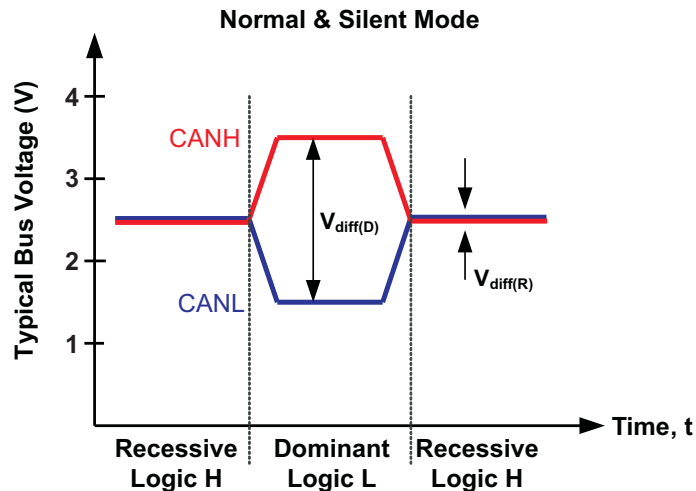
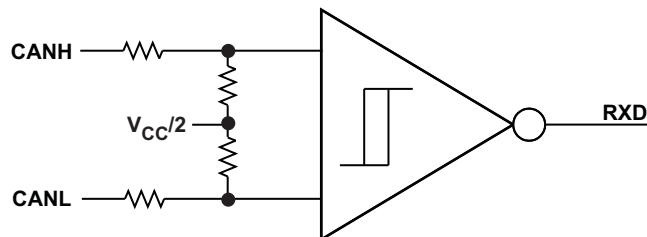

Figure 15. Bus States (Physical Bit Representation)
Figure 16. Simplified Recessive Common Mode Bias and Receiver
(1) H = high level, L = low level, X = irrelevant, Z = common mode (recessive) bias to $V_{CC} / 2$. See Figure 15 and Figure 16 for bus state and common mode bias information.
(2) Devices have an internal pulldown to GND on S pin. If S pin is open the pin will be pulled low and the device will be in normal mode.
(3) Devices have an internal pullup to V_{CC} on TXD pin. If the TXD pin is open the pin will be pulled high and the transmitter will remain in recessive (non-driven) state.
The CAN bus has two states during powered operation of the device: *dominant* and *recessive*. A dominant bus state is when the bus is driven differentially, corresponding to a logic low on the TXD and RXD pin. A recessive bus state is when the bus is biased to $V_{CC} / 2$ via the high-resistance internal input resistors R_{IN} of the receiver, corresponding to a logic high on the TXD and RXD pins. See Figure 15 and Figure 16.